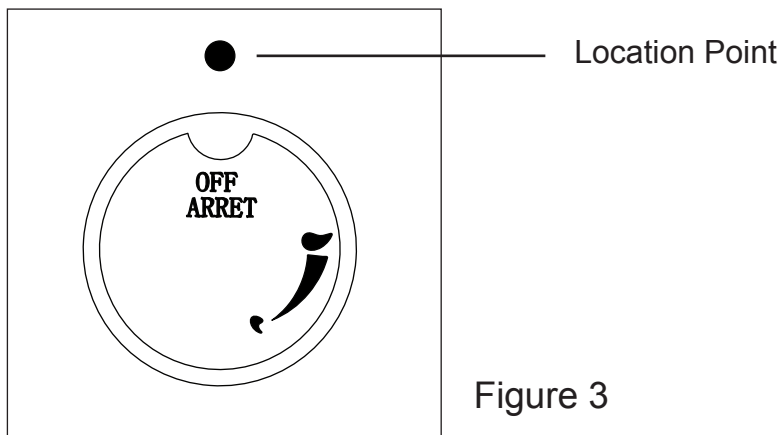

Figure 3
- 2, Make sure the regulator/control knob is in the “OFF” position (Figure 3).
3. Control knob must be in the "OFF" position (Figure 3).